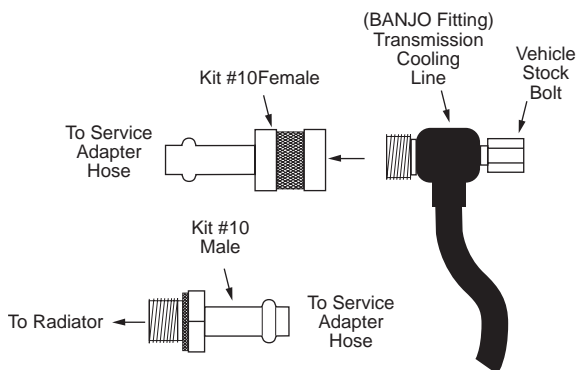

Figure 71. Kit #10 Installation On Saab Vehicles
2. Install the female half of the special fittings kit #10 (see Figure 71) onto the hollow bolt along with the washers.